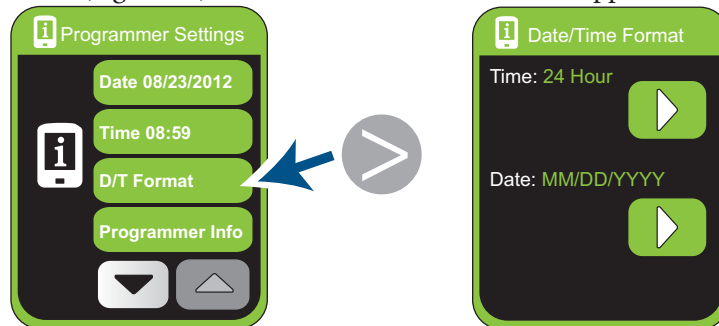

Figure 78. Displaying the Date/Time Format screen
2. Tap **D/T Format** (Figure 78). The Date/Time Format screen appears.